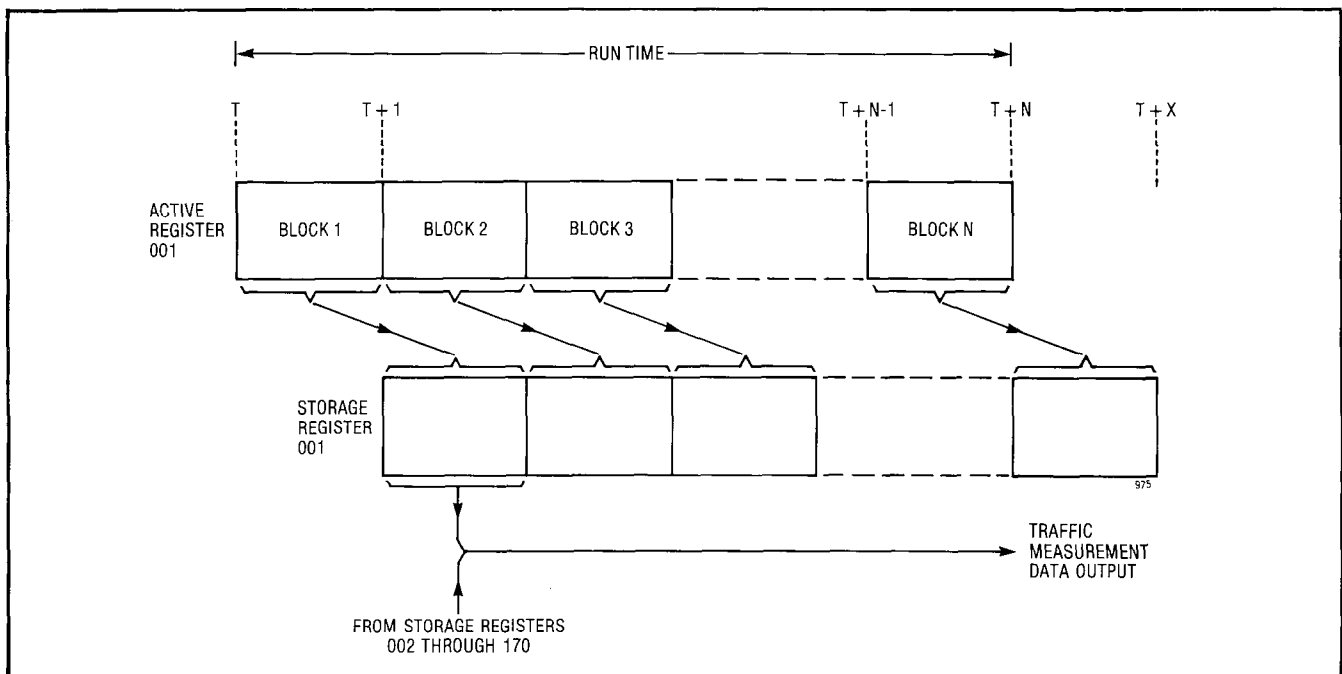

Fig. 2-1 Traffic Measurement Collection and Output Diagram
2.04 Referring to Fig. 2-1 and considering Active Register 001, data is accumulated during the first hour (Block 1), and at the end of that block transferred to Storage Register 001 with the Active Register count reverting to zero. The data is held for 1 hour, during which time it may be accessed and is then replaced by the data count accumulated during Block 2 time. If the run time is less than 24 hours the last block transferred will remain in the storage register up to one hour after the run commences the following day.